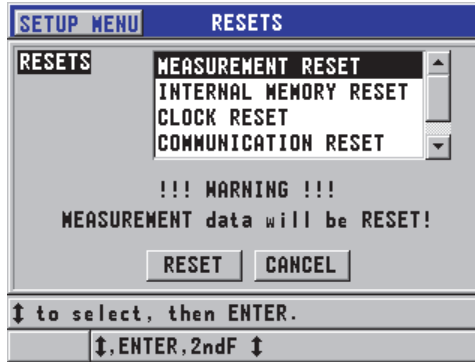

Figure 12-1 Activating a reset function
2. In the **RESETS** screen (see Figure 12-1 on page 201):